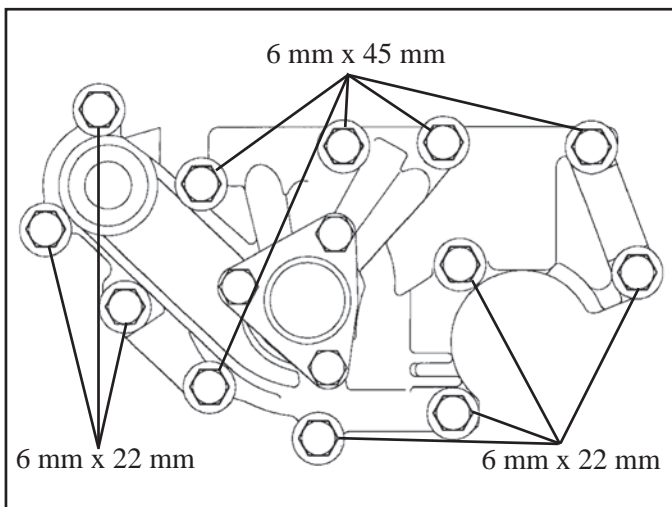

Figure 155
18. Use Figure 155 to place the bolts in their correct location. There are seven 8 mm head bolts that measure 6 mm x 22 mm and five 8 mm head bolts that measure 6 mm x 45 mm (See Figure 155).